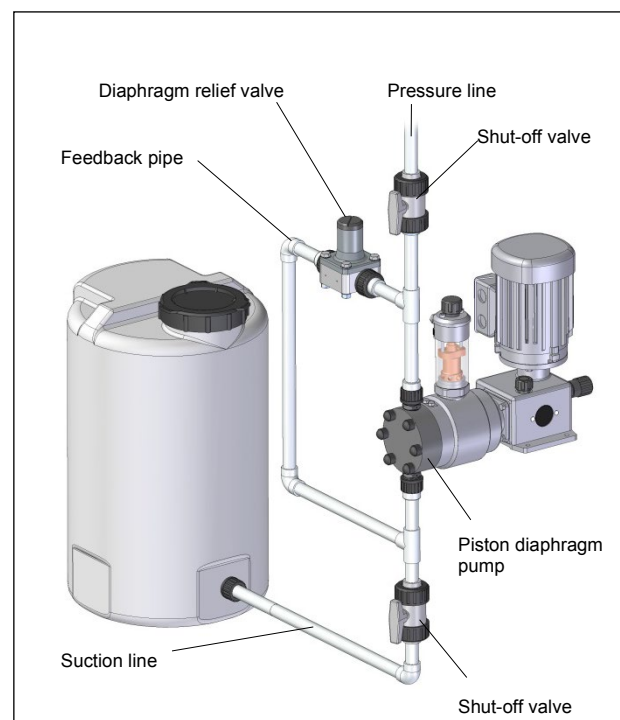

Fig. 23 Installation with (external) relief valve
- or connect the overflow line directly to the pump suction line, but only if there is no check valve inside the suction line (e.g. foot valve of a suction lance) (see Fig. 23).